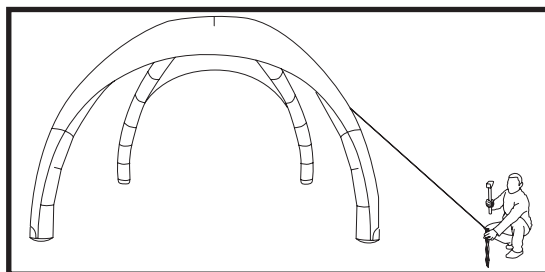

Fig. 6
9. Clip the second end of the rope to the torsion anchor, stretch the rope, hammer the anchor into the ground. Repeat for each rope (Fig. 6). On a hardened ground, secure the tent with ballast bags.